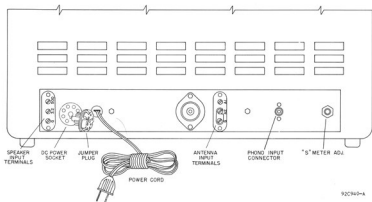

FIG. 2. REAR VIEW
NOTE: The receiver will not operate from an AC source unless the JUMPER PLUG is inserted in the DC POWER SOCKET. See Fig. 2.
REMOTE RECEIVE / STANDBY SWITCH CONNECTION - The receiver may be disabled remotely by connecting a remote spst switch between pins 1 and 4 of the JUMPER PLUG (see Fig. 2). To operate the receiver remotely, set the RECEIVE/STANDBY switch, located on the front panel of the receiver, to the STANDBY position. The receiver can then be placed in RECEIVE or STANDBY operation with the remote switch.
4. The electrical adjustment control for the "S" meter is located on the rear apron of the chassis (see Fig. 2). Slowly rotate this control until the "S" meter pointer indicates zero.